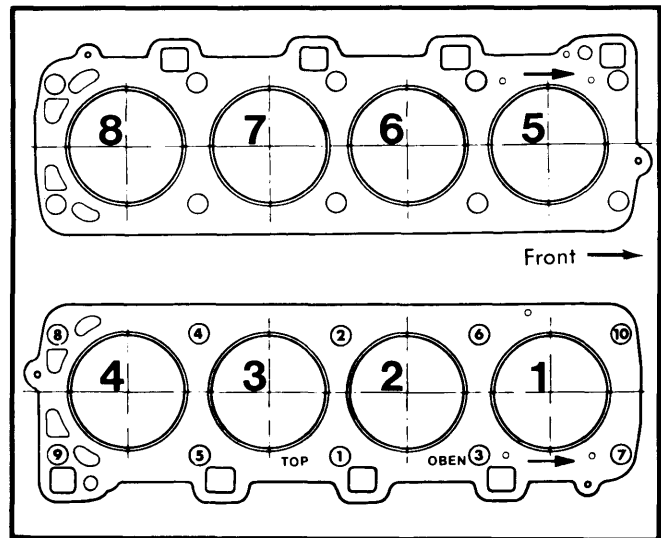

Fig. 1 Cylinder Head Tightening Sequence (Loosen in Reverse Order)
2) Left and right cylinder head gaskets are different. Arrow must face forward and word "TOP/OBEN" must face up. Tighten head in 3 steps according to the sequence shown in Fig. 1. Tighten to final torque and allow to stand at least 30 minutes. Loosen nuts by 1/4 turn, then tighten to final torque of 61 ft. lbs. (8.5 mkg).